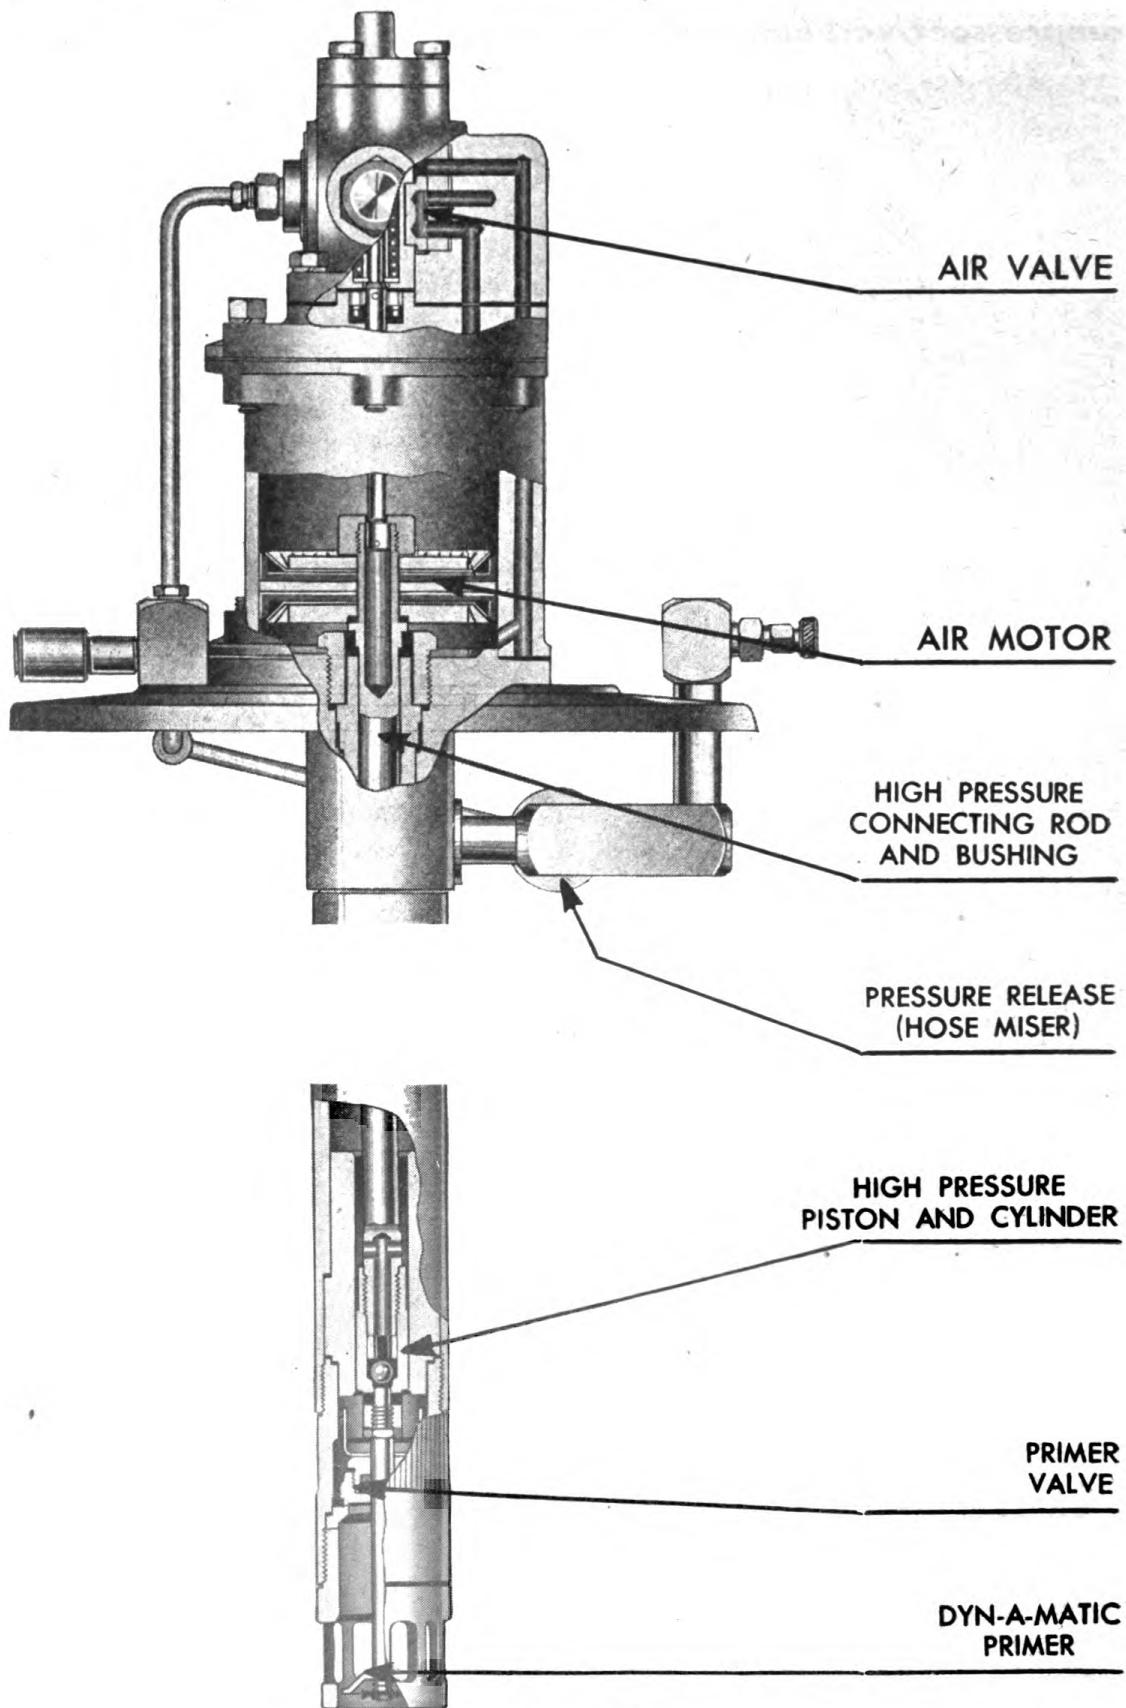

Figure 164
1. Description of Model 7226 High Pressure Pumps (See Figure 164):